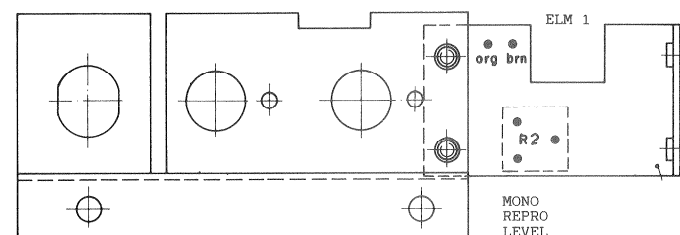

Fig.4.6.3
- Play the level tone section of the reproduce calibration tape and adjust the desired mono tape flux by means of the R2 REPRO LEVEL potentiometer (below the small right-hand cover above the headphones socket). See Fig.4.6.3